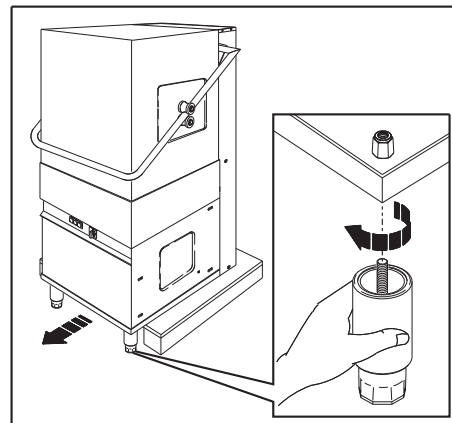

Fig. 4
3. Move the machine on the pallet until freeing of two of the four holes for insertion of the support feet (fig. 4).
Take one of the supplied feet and tighten the screw in one of the two seats vacated (fig. 4).
Proceed with installation of the second foot following the same procedure (fig. 4).